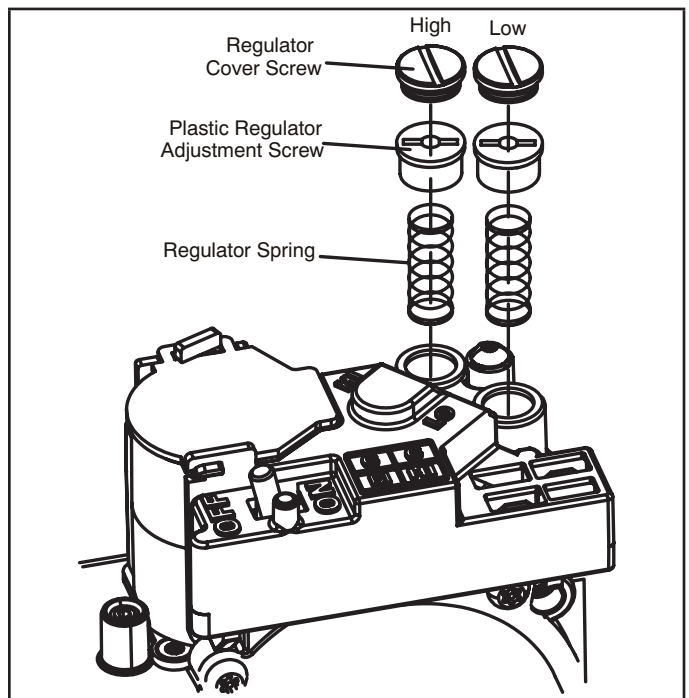

Figure 4
- a - Remove both high fire and low fire springs from the gas valve. See figure 4.